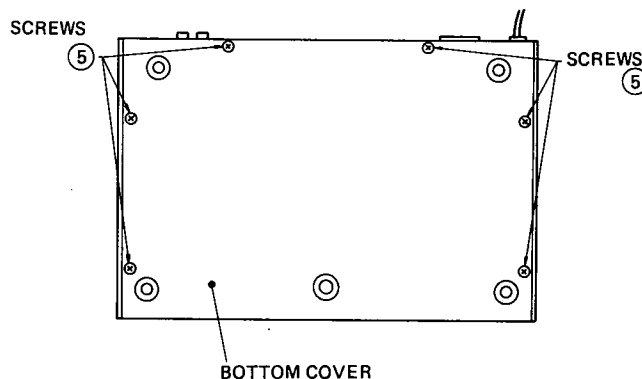

Fig. 3
- 1) After removing the front panel, the bottom cover is removed when the 6 screws (5) shown in Fig. 3 are removed.